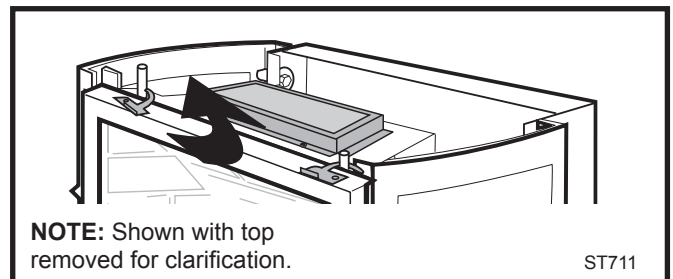

Fig. 16 Rotate cams into place to hold glass frame assembly in place.
8. Install glass frame assembly by resting the bottom edge of the frame on support brackets below the front opening of the firebox. Rotate the top edge of the assembly toward the firebox, and center it. Fasten by “rotating” the cams over the top left and right edges of the frame. (Fig. 16)